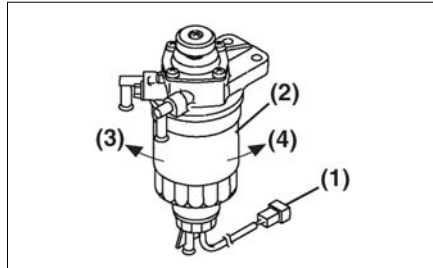

Figure 5-14
3. Disconnect the fuel filter sensor connector (**Figure 5-14, (1)**).
6. Remove the fuel filter (**Figure 5-14, (2)**) by turning it to the left (**Figure 5-14, (3)**). Wipe up all spilled fuel.
17. Install the new fuel filter (Figure 5-14, (2)) by turning it to the right (Figure 5-14, (4)) until it contacts the mounting surface. Tighten one additional turn.
19. Reconnect the fuel filter sensor connector (Figure 5-14, (1)).